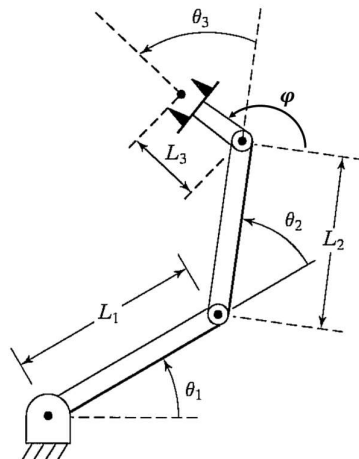

Fig. Q.5
- Q5 (a) Compute the joint variables required to achieve the desired position and orientation (x , y , and φ) of the wrist in a 3R planar manipulator shown in Fig.Q.5. Also, explain the constraints associated with specifying the values of x and y . [5] 2 Calculate